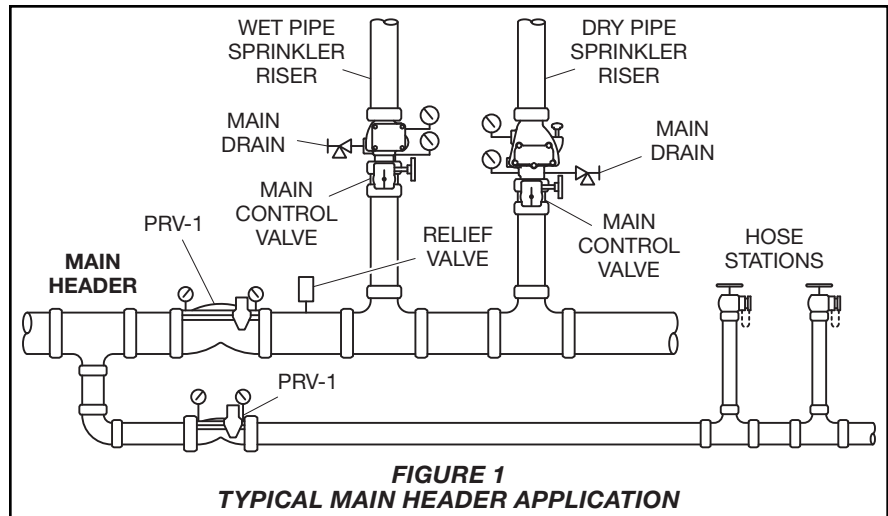

FIGURE 1
- Within the main header (Ref. Figure 1) supplying wet pipe, dry pipe, deluge, or preaction system risers, and/or a standpipe system supplying hose connections